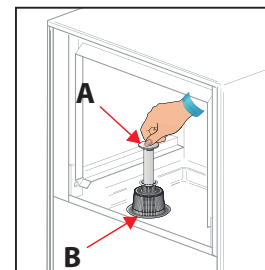

Fig.2
2. Press button (1) to put the machine in STAND-BY. Open the door and remove the OVERFLOW PIPE (A) Fig. 2 and the dishwasher will automatically empty the wash tank.
DO NOT REMOVE THE GREY PLASTIC FILTER (B) FIG. 2. THESE PREVENT SCRAPS OF FOOD GOING DOWN INTO THE DRAIN FILTER.
3. Once the tank has been emptied remove the PLASTIC FILTER (B) and wash all items under running water. Refit the PLASTIC FILTER (B) and the OVERFLOW PIPE (A) ready for the next use, Fig. 2.